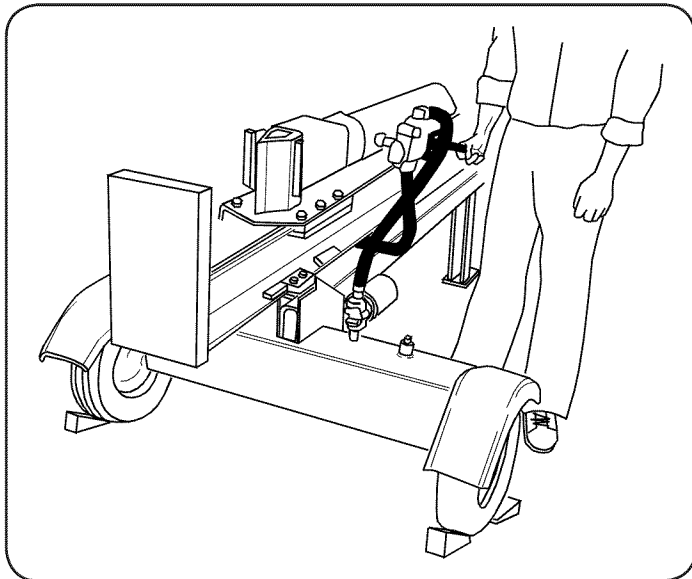

Figure 4-4
2. Stand behind the reservoir tank to operate the control handle and to stabilize the log. See Figure 4-4.